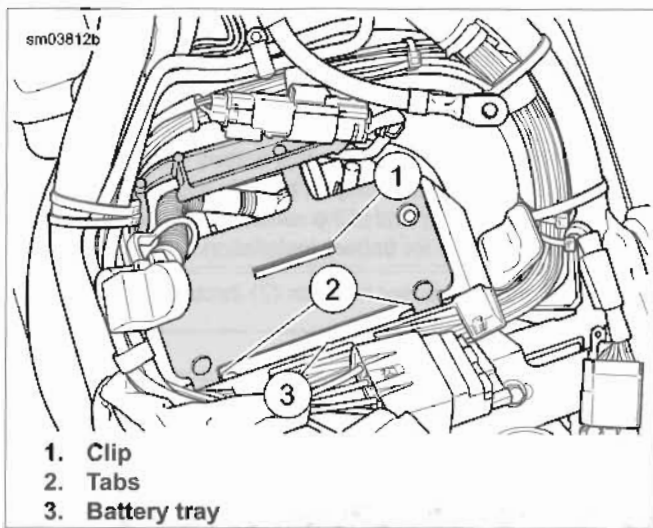

Figure 1-51. Battery Caddy
- See Figure 1-51. Place battery caddy into position and install battery caddy clip (1) under front of battery tray (3). Make sure tabs (2) of battery caddy fit over rear of battery tray.